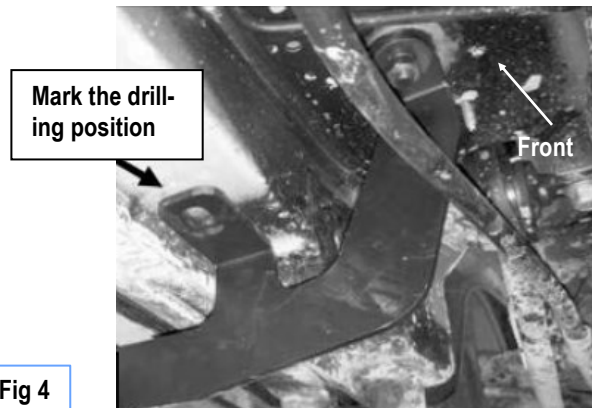

Fig 4
Move to the passenger side rear mounting location of the vehicle. Locate and remove the rubber plug on the mounting location. Insert (1) M10x35 Long Bolt Plate into the hole (**Fig 3**). And attached Passenger Rear Mounting Bracket (**PRM**) to the installed Bolt plate. Use the bracket as template, mark the slot position on the body panel (**Fig 4**).